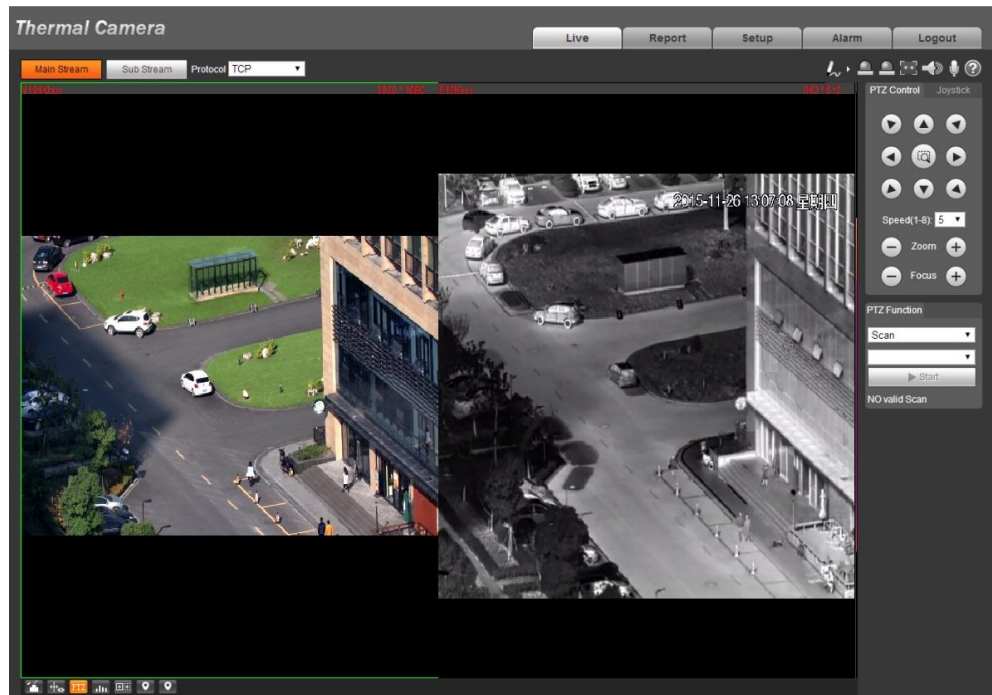

Figure 3-4
Step 3 Click **Login** and the system will display the main interface, which is shown in Figure 3-4